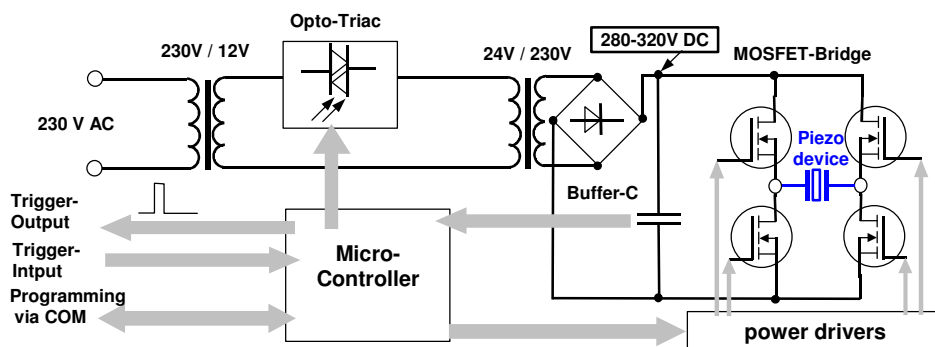

Figure 2
The principle design is shown as a block diagram in **Figure 2**. The system uses a 12VAC 40VA main plug transformer as input power supply. An internal step-up transformer connected to a bridge rectifier generates a DC voltage of 280-320V. The DC voltage, buffered by a suitable capacitance, is supplying a MOSFET-H-Bridge, which drives the Macro Fiber Composite with a unipolar or bipolar output. The system shuts down the primary 12V(AC) by monitoring the voltage level across the buffer capacitor to minimize the consequences of an electric shock to the operator.